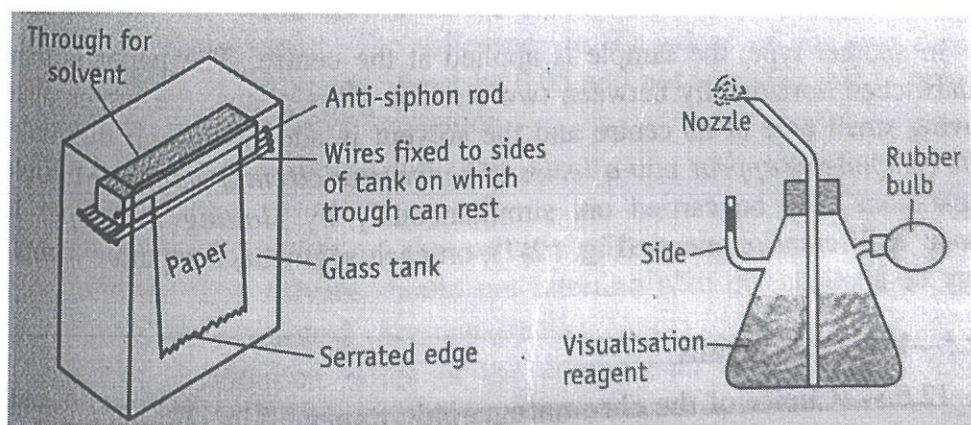

Fig 5: Descending technique and sprayer to spray the visualizing agent
- b. **DESCENDING TYPE:** This is carried out in a special chamber where the solvent holder is at the top. The spot is kept at the top and the solvent flows down the paper. In this method solvent moves from top to bottom so it is called descending chromatography (Fig: 5).